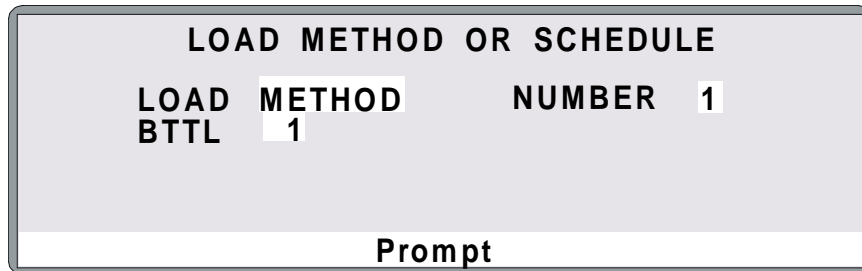

Figure 3-17. Load Method or Schedule Screen
4. Press **Menu** to display the **MENU OF SCREENS**, and press **Enter** (or **1**) to display the **LOAD METHOD OR SCHEDULE** screen (see Figure 3-17).